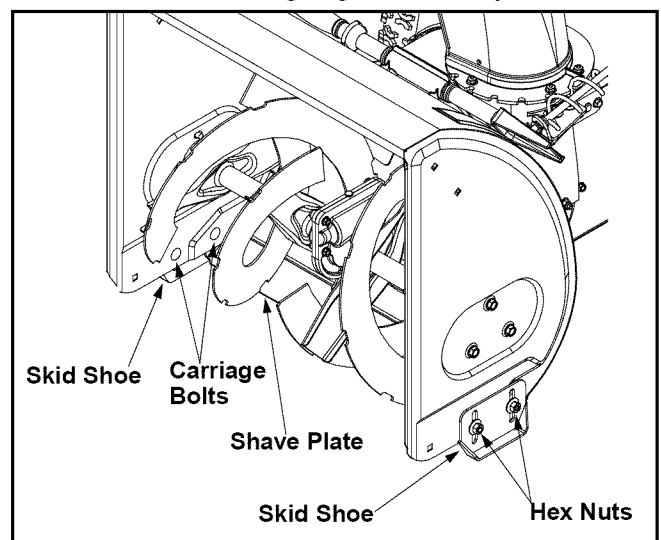

Figure 26
- To remove skid shoes, remove the four carriage bolts, cupped washers and hex nuts which attach it to the snow thrower. Reassemble new skid shoes with the four carriage bolts, cupped washers (cupped side goes against skid shoes) and hex nuts. See Figure 26.